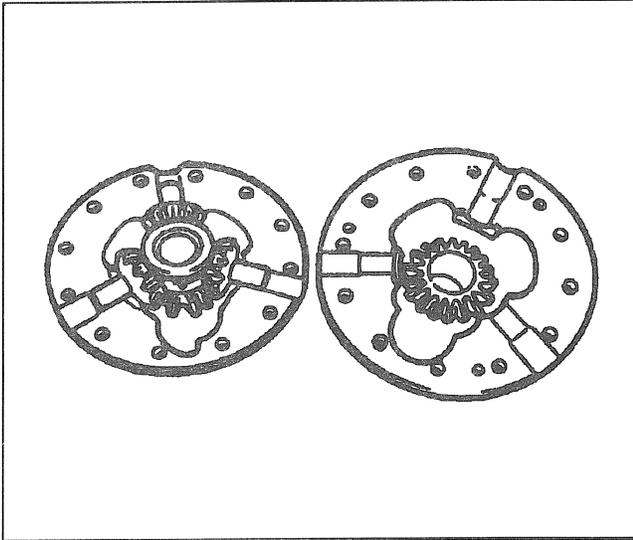

Figure 10—Differential Case Halves
2. Case screws (32).
3. Case halves (Figure 10).